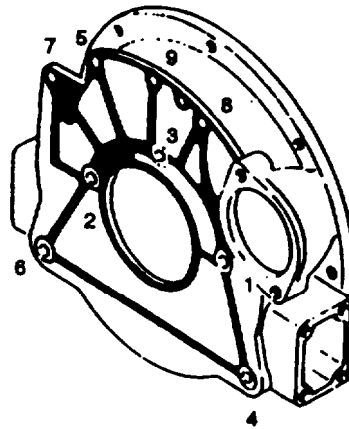

FIGURE 3-109. Flywheel Housing Installation Sequence
- b. Apply sealing compound (FORMAGASKET2) to shaded areas at flywheel housing (10) shown in FIGURE 3-109.
- d. Tighten flywheel housing fasteners a little at a time and in sequence shown in FIGURE 3-109 to 61 ft-lbs (82.7 Nm) for bolts (12) and to 30 ft-lbs (40.7 Nm) for bolts (11).